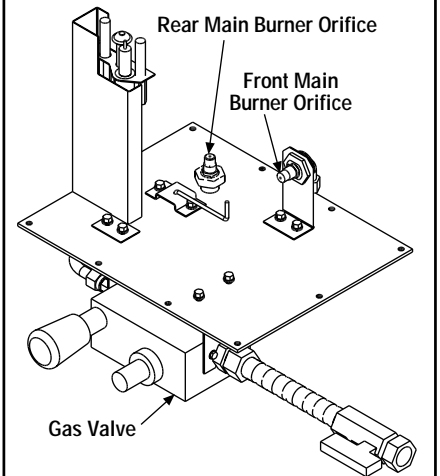
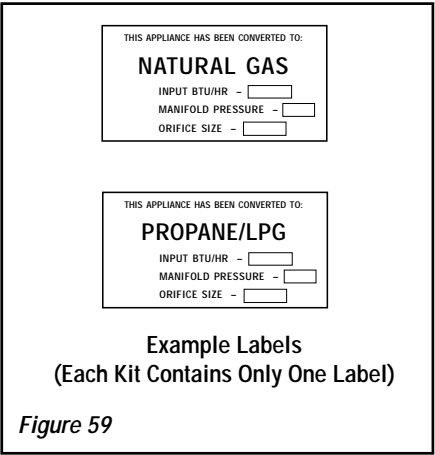

Figure 57
Figure 58
Step 7. Unscrew the rear and front main burner orifices (see Figure 57) from their respective manifolds and replace them with the ones provided in this kit. There are two main burner orifices provided in this gas conversion kit. Refer to **Table** below for the correct front and rear main burner orifice sizes for the gas being used. The orifice size is stamped on the orifice. See Figure 58.